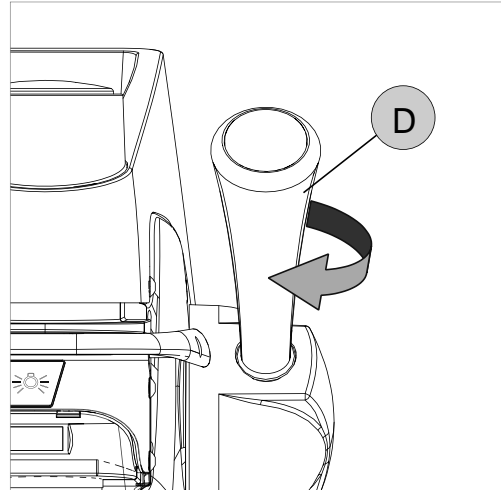

Fig. 59
- 1) Lower the vertical carriage with the lever (D) (Fig. 59).
- 3) When the pins are aligned, raise them slightly with the lever (D) so that they are not in contact with the key surface.
- 4) Turn the lever (D) clockwise to lock the height of the vertical carriage.
- 5) Move the clamp carriage with the lever (C) and take the pins into contact with several points on the left-hand jaw (also on the side of Stop 0). If the calibration board shows a green light the fixed-hand jaws are aligned.